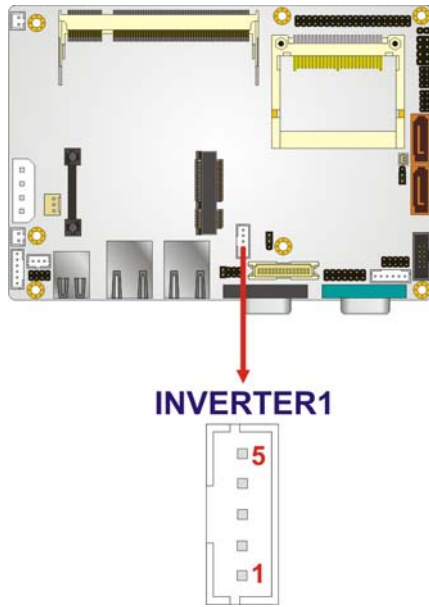

Figure 3-5: Panel Backlight Connector Location
- CN Location:** See **Figure 3-5**